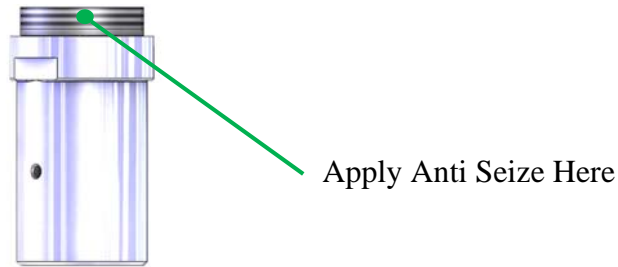

Figure 29: Bonnet Threads
28. Lubricate the bonnet threads with anti-seize. See Figure 29.